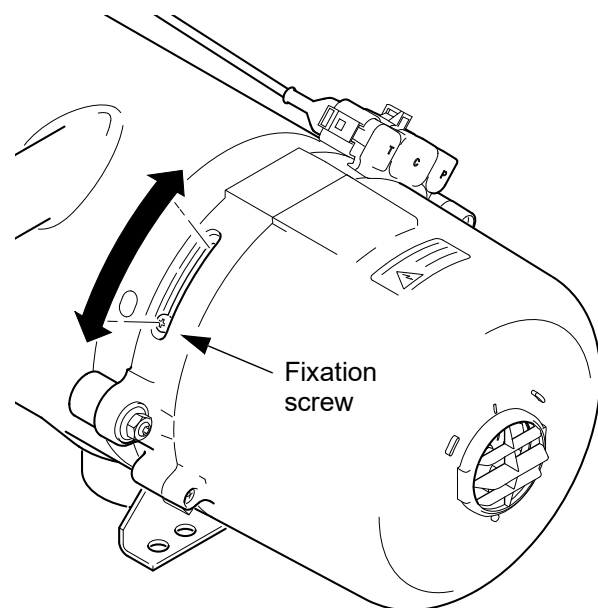

Fig. 701 Fixation screw for CO₂ setting
4. Loosen the fixation screw (see Fig. 701) and rotate the adjustment ring with the fixation screw until the target value is reached.